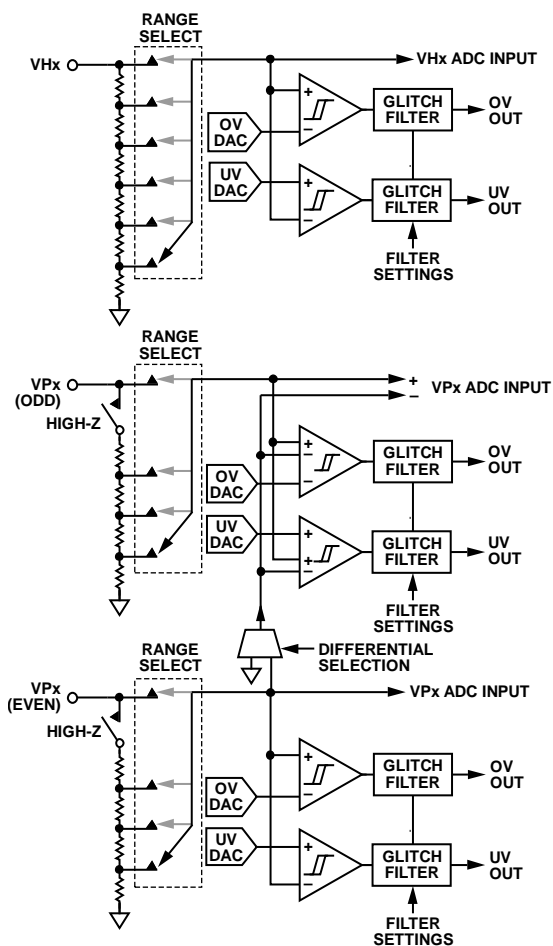

Figure 9. Supply Fault Detectors
The ADM1266 has 17 programmable supply fault detector (SFD) inputs. These dedicated inputs are labeled VHx (VH1 to VH4) and VPx (VP1 to VP13). The ADM1266 is also capable of making precision differential voltage measurements on the VPx pins (the exception is that VP13 cannot be used for differential measurements). One differential measurement requires two VPx pins. The odd numbered VPx pin (for example, VP1) must always be the greater voltage. The next corresponding even number VPx pin (for example, VP2) is used for that differential measurement. Both differential VPx pins must have the same input range selections. The SFD for the odd numbered VPx pin responds to the differential measurement. Figure 9 shows the arrangement of the pins. Each SFD input can be configured to detect an undervoltage (UV) fault (the input voltage drops below a preprogrammed value), or an overvoltage (OV) fault (the input voltage rises above a preprogrammed value). A programmable (up to 100  $\mu$ s) glitch filter allows the user to remove any spurious transitions such as supply bounce at turn on.
The UV and OV comparators shown in Figure 9 are always monitoring and sensing the voltage on VHx and VPx. To avoid chatter (multiple transitions when the input is very close to the set threshold level), these comparators have digitally programmable hysteresis. The hysteresis is added after a supply voltage goes out of tolerance. Therefore, the user can program the amount above the UV threshold to which the input must rise before a UV fault is deasserted. Similarly, the user can program the amount below the OV threshold to which an input must fall before an OV fault is deasserted.
The ADM1266 has an on-board, 12-bit accurate ADC for voltage readback over the PMBus using the READ\_VOUT command (Register 0x8B). Inputs to the ADC consist of the 17 SFD inputs (VHx and VPx pins). The inputs to the ADC come from the back of the input attenuators on the VPx and VHx pins, as shown in Figure 9.